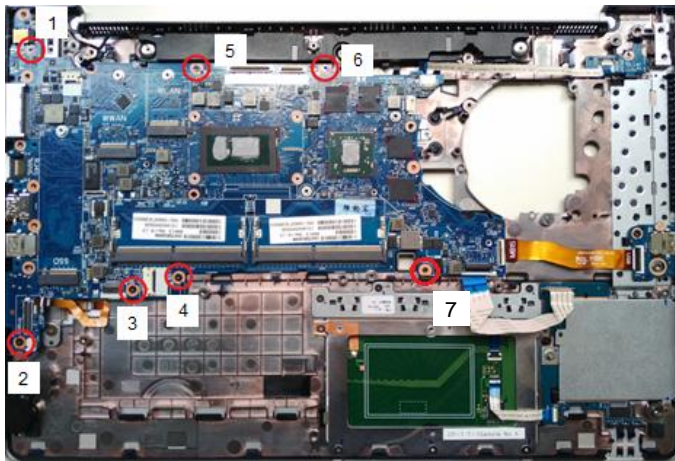

Fig.1
1. Loosen M/B screw\*7(M2.0\*3.0)(Fig.1).